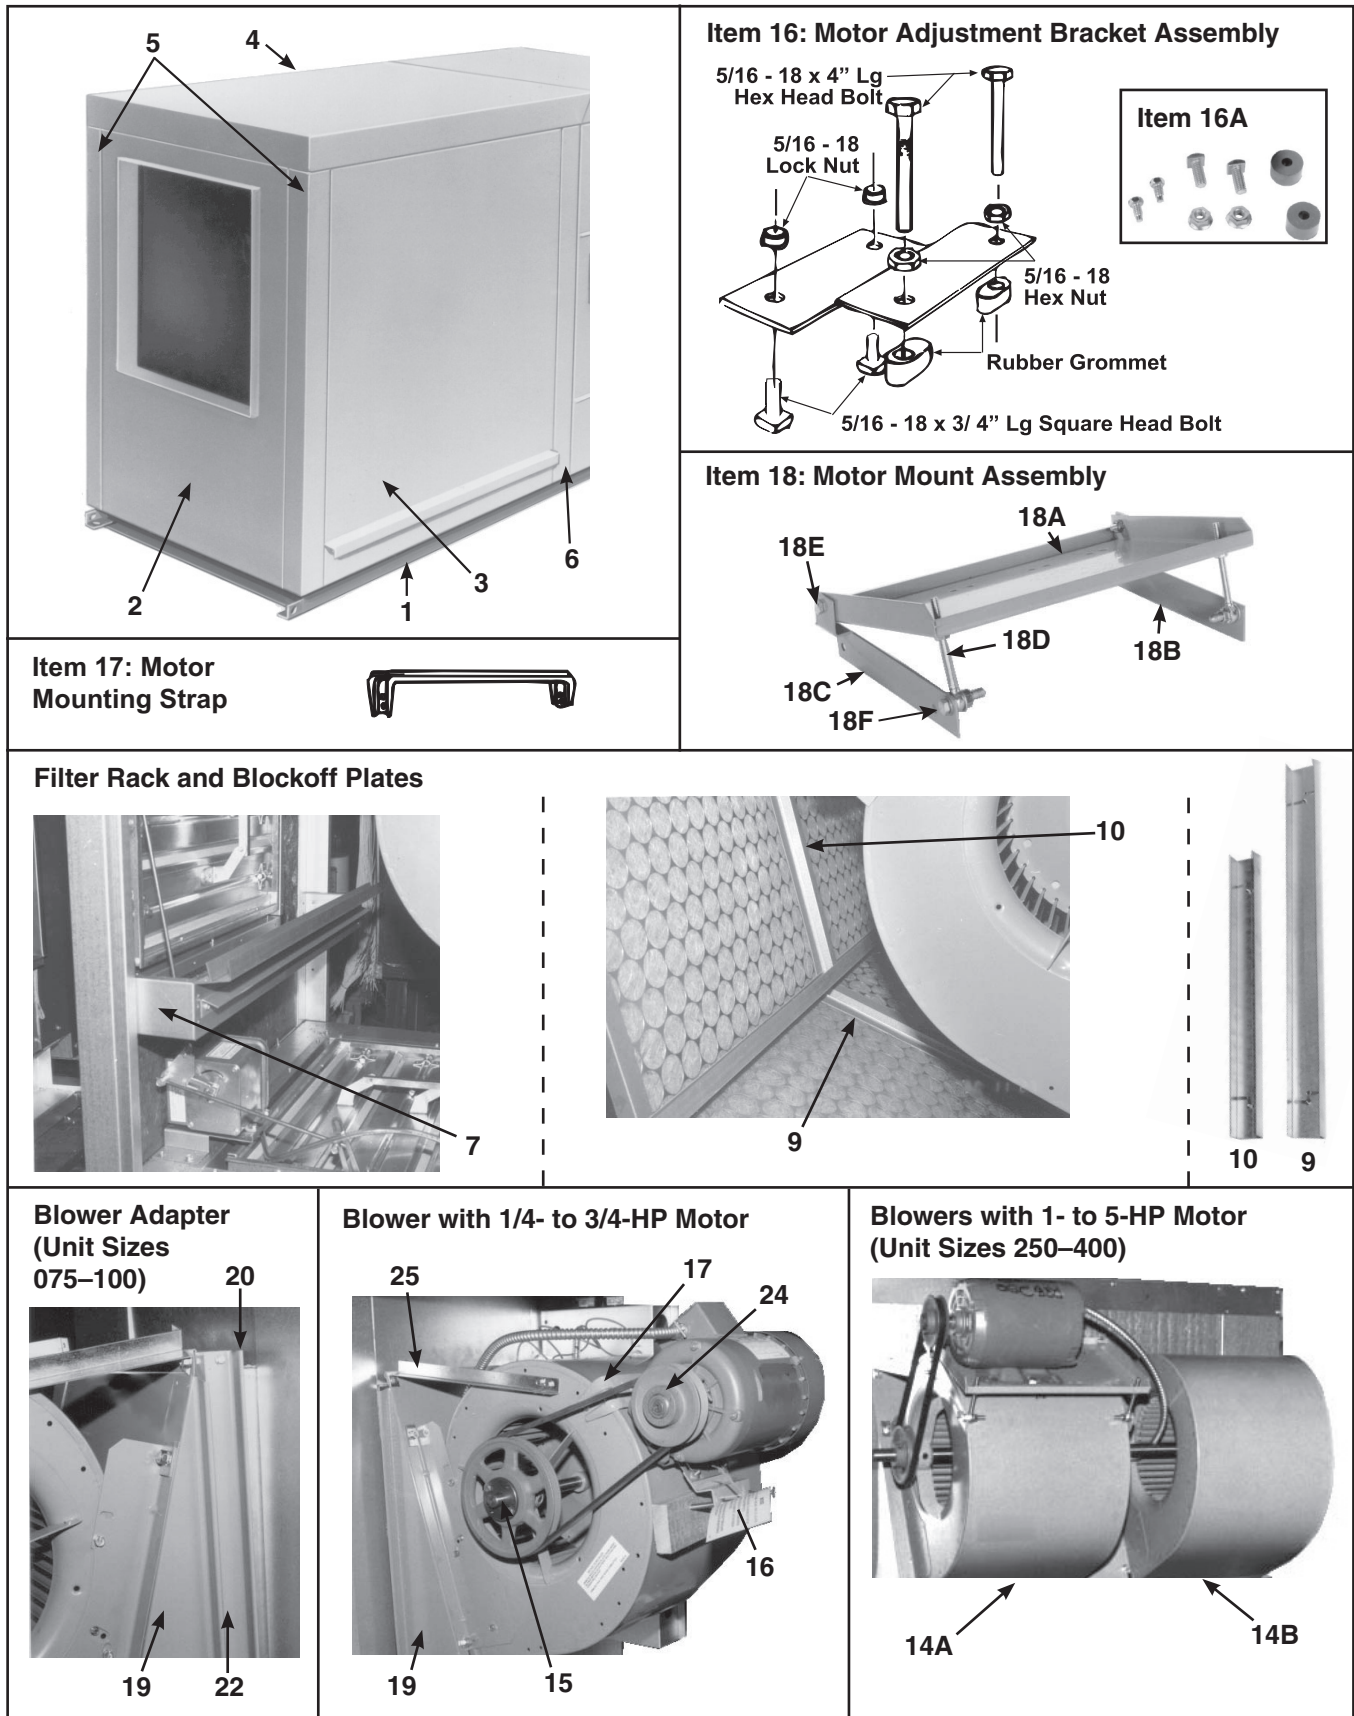

Figure 22. RGB and RPB Model B-Type Blower Cabinet Section Components (Refer to Table 46)
- Components for RGB and RPB model B-type blower cabinet sections are shown in Figure 22 and listed in Table 46.